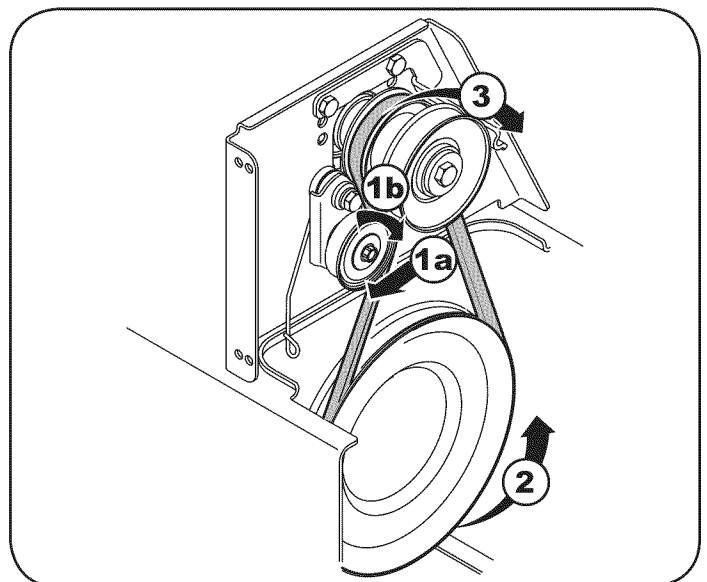

Figure 30
1. a. Pull the idler pulley away from the backside of the drive belt to relieve the tension. See Figure 30.